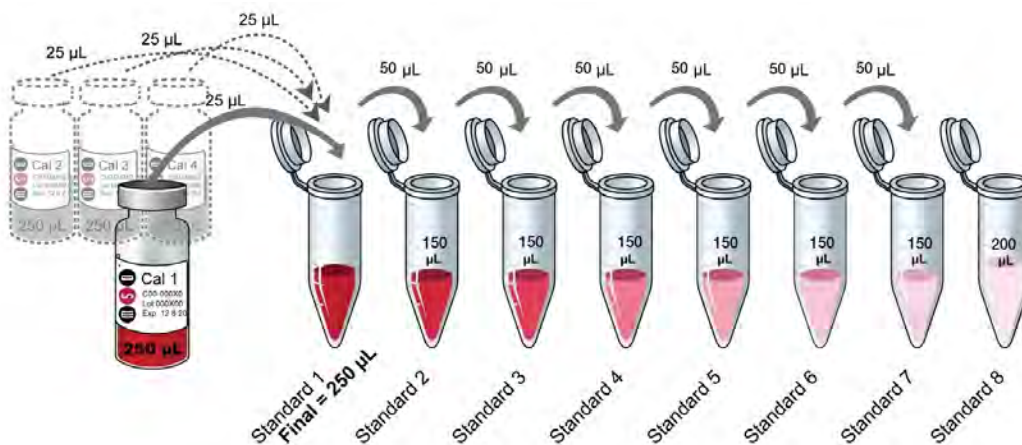

Figure 2. Dilution schema for preparation of Calibrator Standards for a single U-PLEX assay plate.
- For 1 plate, see Table 10 and Figure 2.